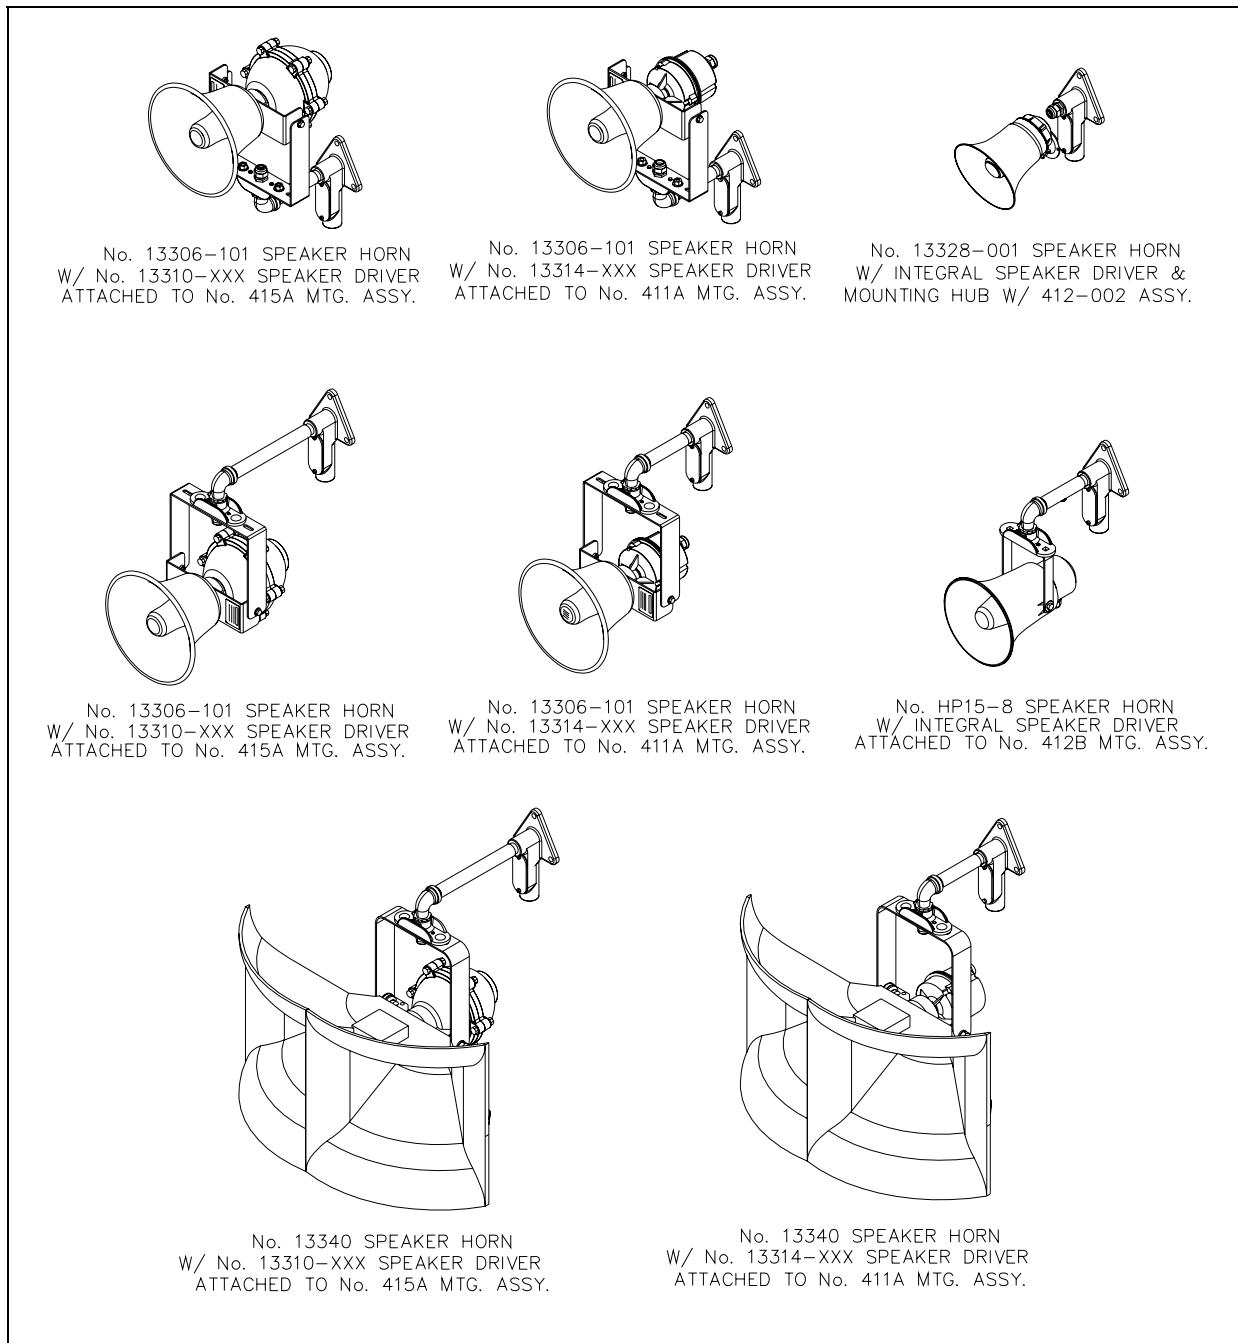

Figure 5.
2. When mounting the No. 13306-101 Horn in an upright orientation, the 411A mounting assembly can be used with either the 13310 or 13314 Driver. See Figure 5 on page 8.